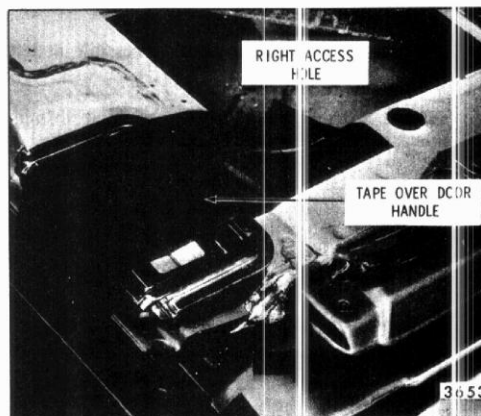

Fig. 9-8-Inside Handle (Door Operation) Tape
**CAUTION:** With tail gate open and right upper lock engaged, the tail gate has been placed in a vulnerable position and could drop from the right lower lock if inside door remote handle were actuated which could result in personal injury or damage to the tail gate assembly. As a safety precaution, prior to manually locking either right or left upper locks, apply body tape over inside door remote handle to render same inoperable (Fig. 9-8).
**CAUTION:** With tail gate open and locks engaged (as explained in preceding note), the tail gate has been placed in a vulnerable position and could drop from the right lower lock if inside door remote handle were actuated. As a safety precaution, prior to manually locking either right or left upper locks, firmly apply body tape over inside door remote handle to render same inoperable (Fig. 9-8).